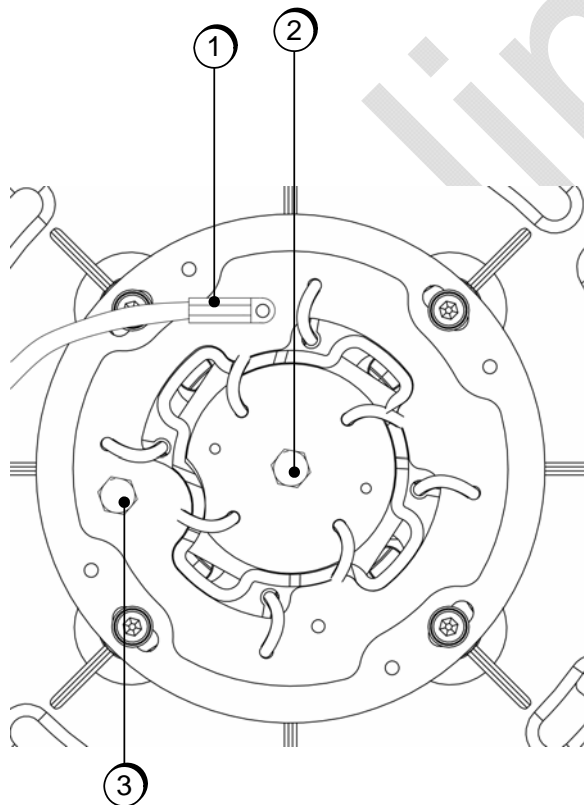

Figure 10: Connecting the motor cables and the temperature sensor cable
2. Connect the two motor cables to the two brass M8 bolts (see Figure 10 - [2] and [3]). The left motor cable is connected to the middle bolt and the right motor cable is connected to the bolt on the side. Use M8 cable terminals that are suitable for the used cable diameter. Mastervolt recommends using at least 25 mm² flexible cable, depending on the distance between the motor and motor controller.
2. Remove one of the “torque” screws of the brush holder (see Figure 10 - [1])